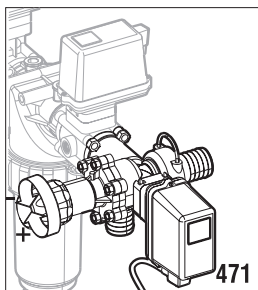
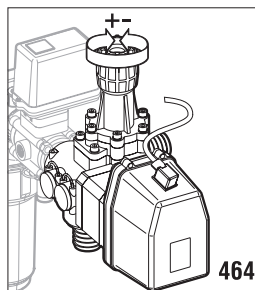

Fig. 7
Fig. 8
5.1.1 Constant pressure units (Fig. 7 and Fig. 8)